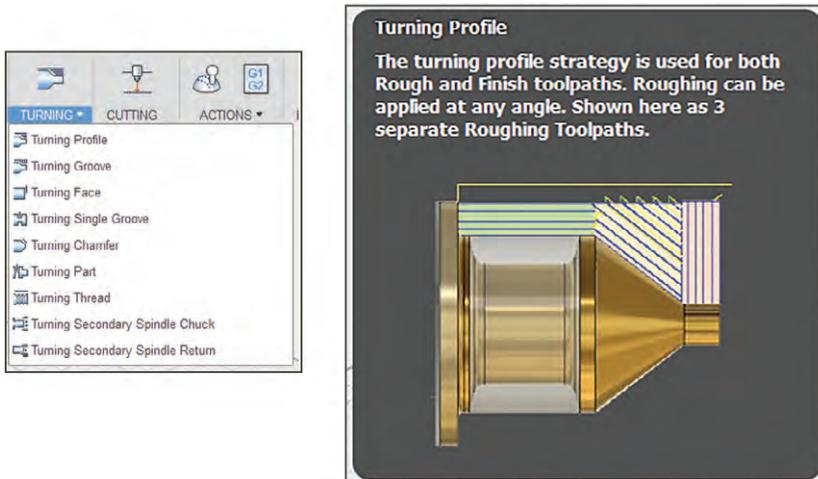

FIGURE 13-11: Turning is for lathes.
- ▶ **Turning:** Use this menu for lathes, machines that cut parallel to the surface of a material being rotated (Figure 13-11). You can do both rough and finish toolpaths.